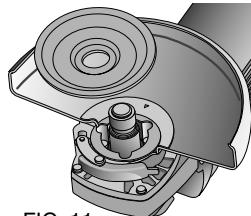
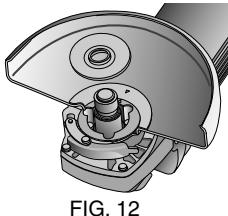

FIG. 11
FIG. 12
Mounting Grinding Wheels and Sanding Flap Discs Using Depressed Center Flange (FIG. 11, 12-15)
1. Place the backing flange on the grinder spindle (FIG. 11).
1. Place the backing flange on the grinder spindle (FIG. 11 or 12).
1. Place the backing flange on the machine spindle (FIG. 11 or FIG 12).